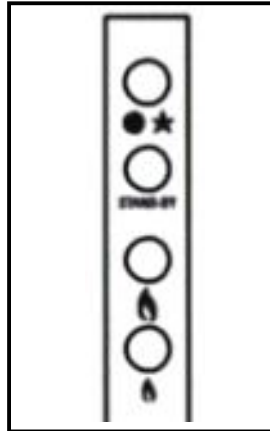

FIG. 2
6. If you are using the Manual Control Panel, push the ● ★ (top) button on the Manual Control Panel (See Fig. 2) until an audible signal confirms the start sequence has begun; release button.